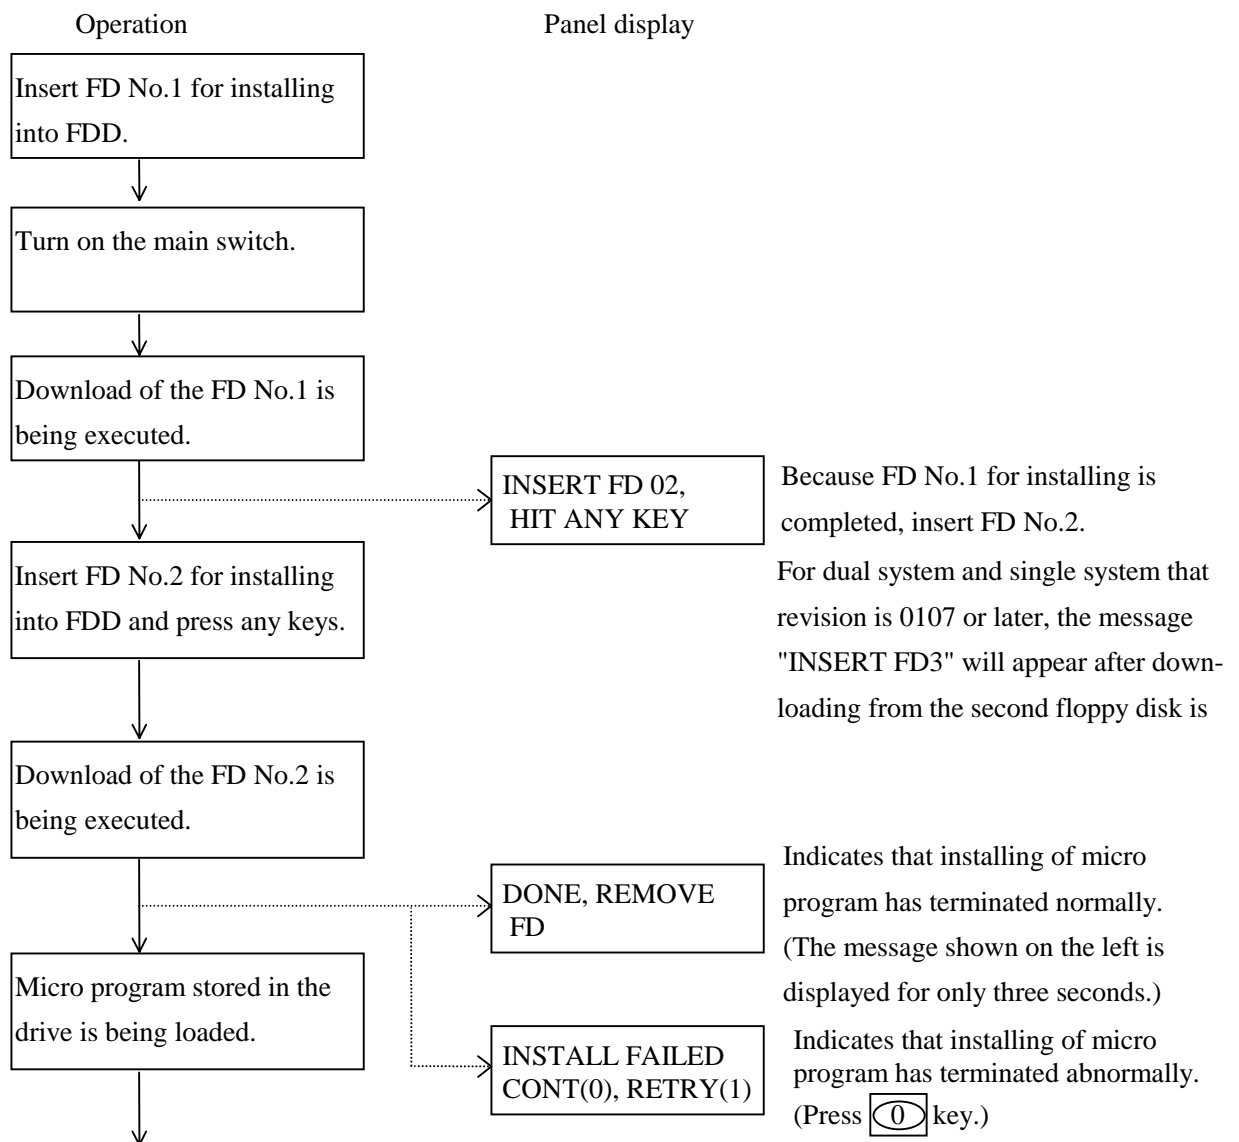

Figure 15.1 SW
① Set the Dip switch No.1 as shown in figure 15.1.